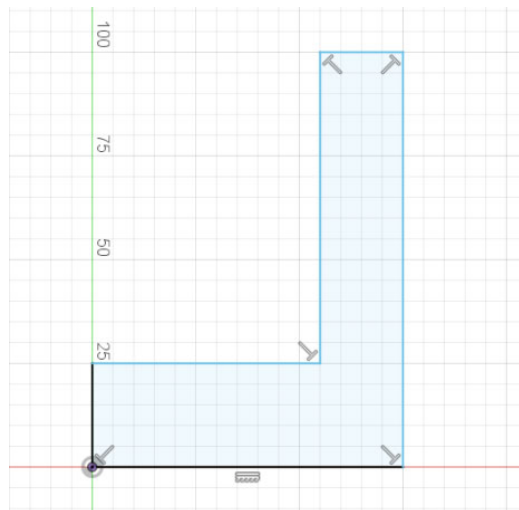

Fig. 2: Create closed geometry
2. Select “Line” and create closed geometry as shown in Fig. 2. Dimension will be assigned later.